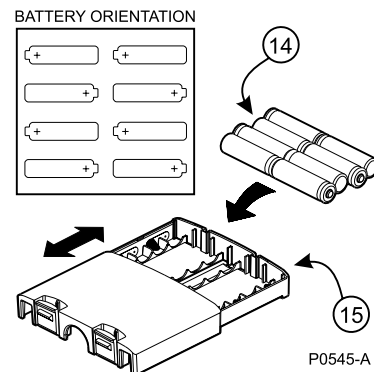

Figure 6 - Alkaline battery installation
- c) Place 8 “AA” alkaline batteries (14) into the base of the alkaline pack (15). Ensure they are aligned as shown in Fig 6 and as indicated inside the compartment.